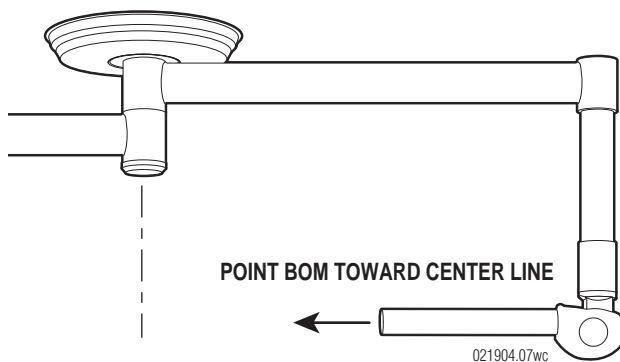

Figure 5.
a. To make it easier to install the lighthead, locate the support arm of the balance mechanism so that it points inward toward the ceiling cover. This will prevent the radial arm from moving when installing the lighthead. See figure 5.